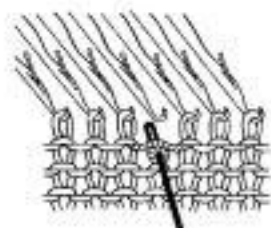

Fig. 52-1
1. Put the single eye Transfer Tool through the loop of the dropped stitch. (Fig. 52-1)